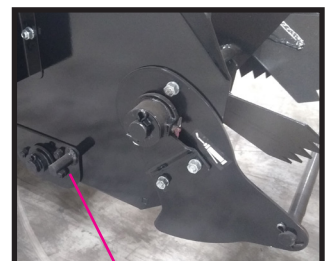

Fig 6.
4. Install one of the locking collars on the protruding rod welded to the left web chain shaft mounting plate. Leave it loose until everything is installed to allow for final adjustments. (**Fig 6 & Fig 7**).